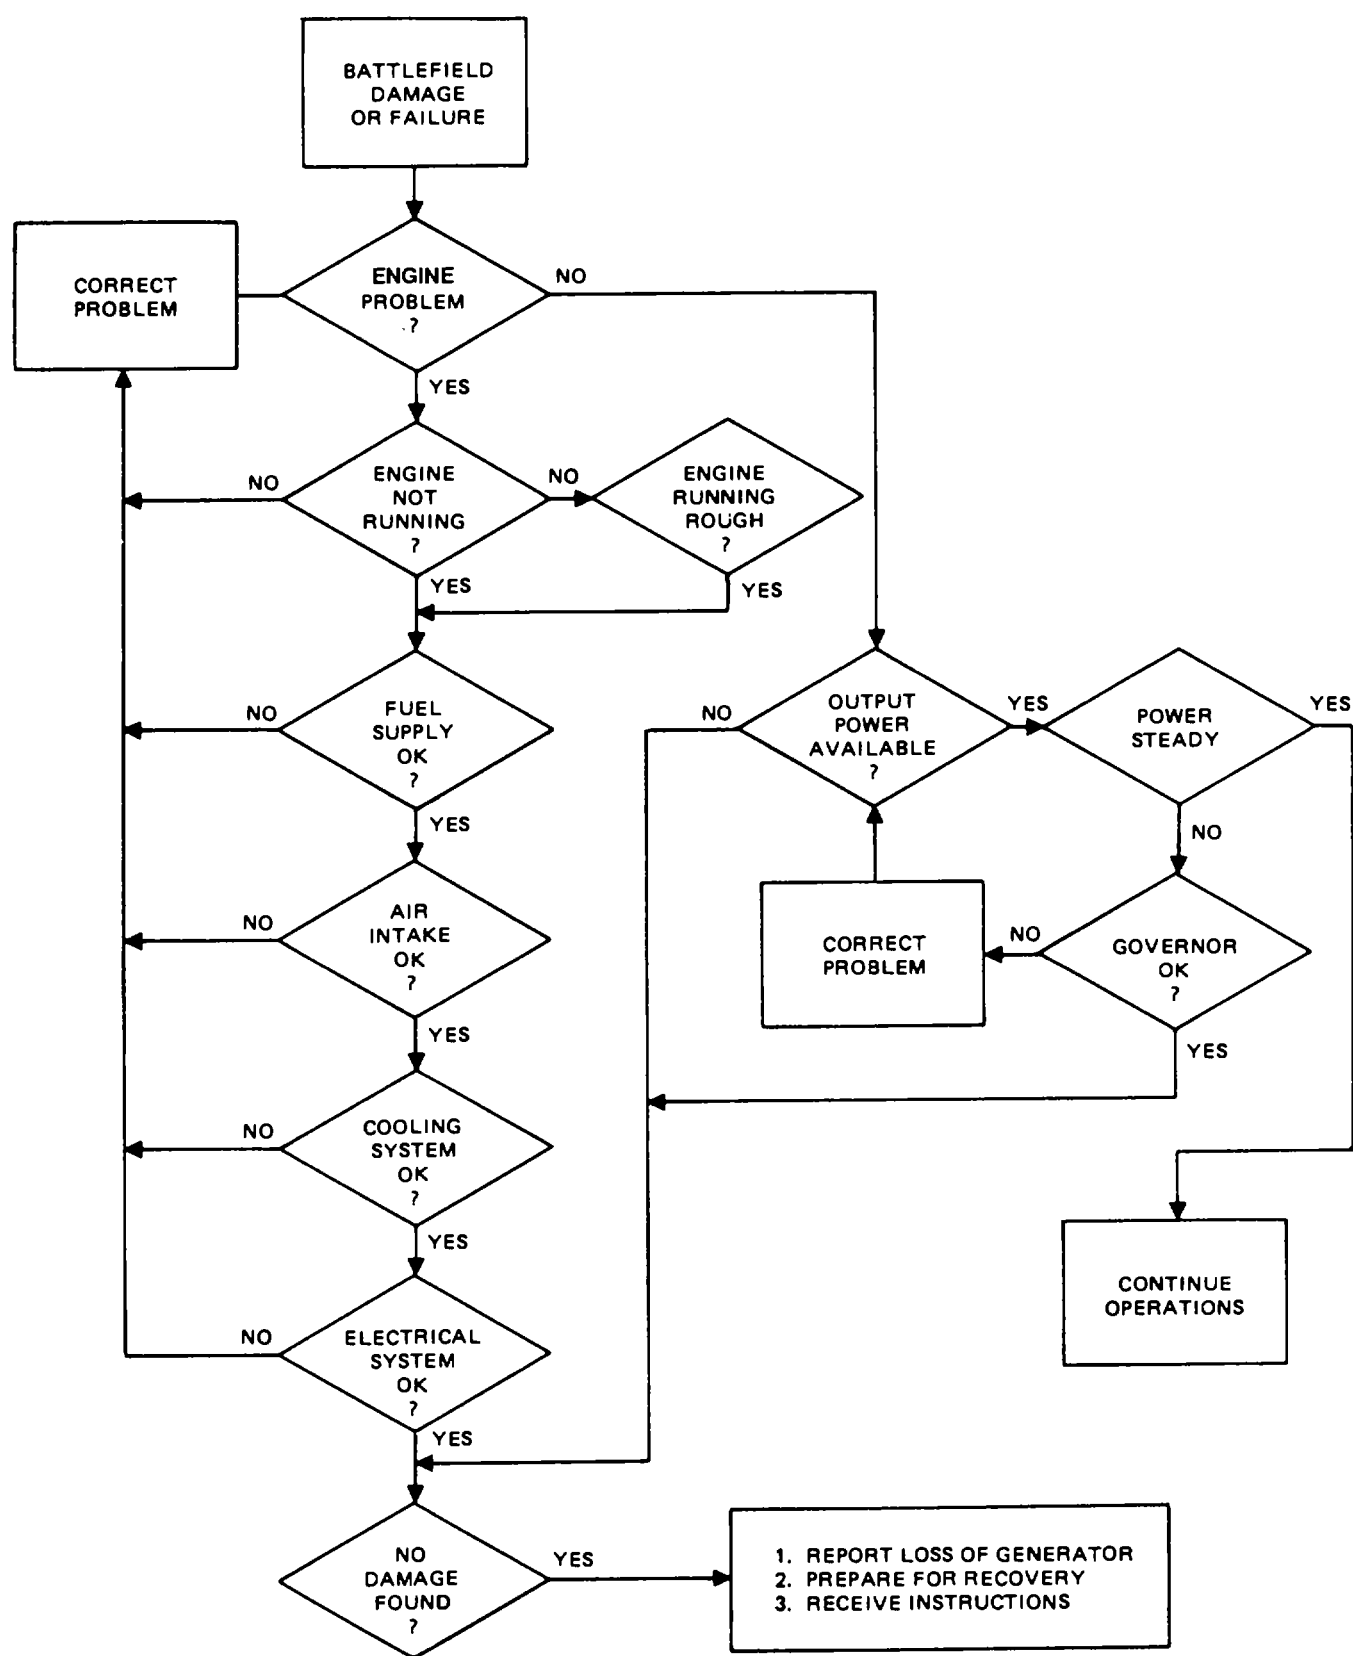

Figure 2-1. Battlefield Damage Assessment.
- (1) Appendix C lists alternate sources of supply to include foreign ownership of US generators and expendable supplies which are recommended for use to implement various BDAR repairs.
- (2) Appendix D lists special or fabricated tools used in performing BDAR repairs.
- (3) Appendix D lists substitutes for the petroleum, oil, and lubricants (POL).
**2-4. Assessment Process.** The assessment procedures are structured using the logic process shown in figure 2-1.
- (1) visually inspect (repair, if necessary).
- (2) functionally test (repair, if necessary) and,
- (3) assess the performance.